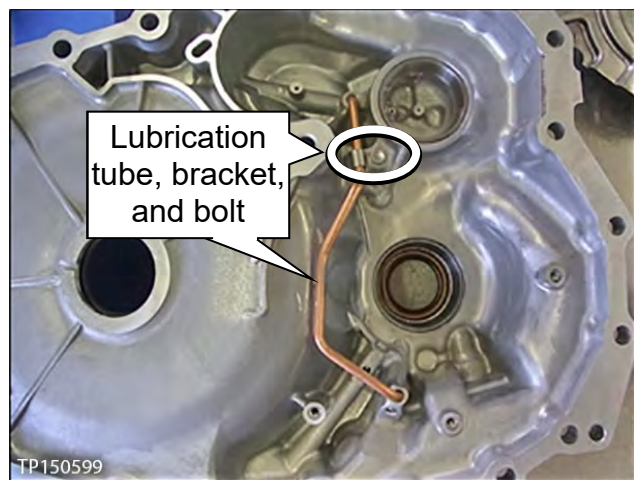

Figure 153
- b. Remove the bolt and then remove the lubrication tube and its bracket (Figure 153).